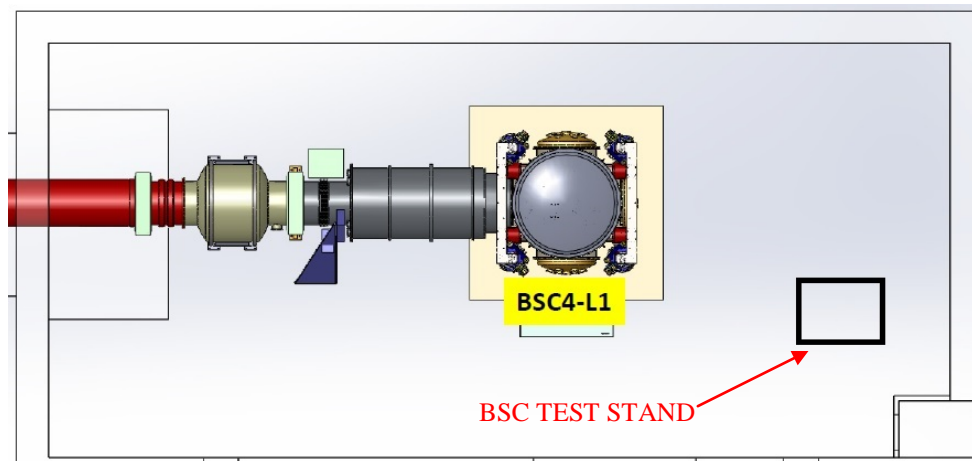

Figure 1 Test Stand location within the X-End Station VEA
- The features of the BSC mechanical test stand which interface to the BSC-ISI platform shall be used to establish a centerline and two offset lines with alignment monuments/references in the floor, as depicted in the D1200076 (see also Figure 1)
- An appropriate clean room should be installed over the test stand (see Figure 1)